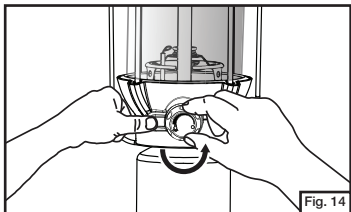

Fig. 14
- Turn fuel valve on. Push the green igniter button and a spark should jump between the electrode and lower mantle support and ignite the mantle. (Fig. 14)